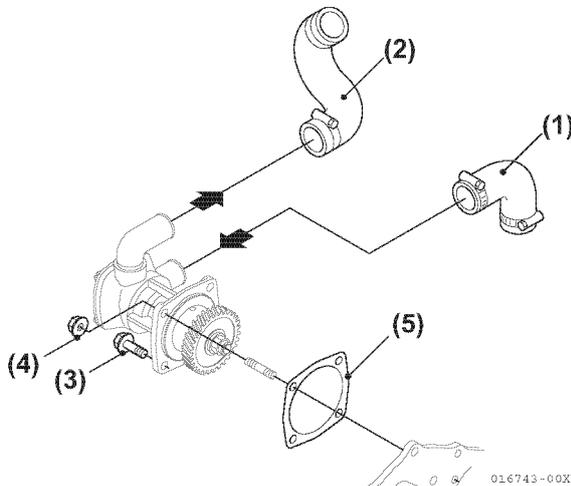

Figure 7-35
- 17. Install the seawater pump assembly with new gasket (**Figure 7-35, (5)**) to gear case.
- 2. Disconnect seawater supply hose from seawater pump (**Figure 7-35, (1)**).
- 3. Disconnect seawater pump-to-heat exchanger pipe (**Figure 7-35, (2)**).
- 4. Remove three bolts (**Figure 7-35, (3)**) and one nut (**Figure 7-35, (4)**) then remove seawater pump.
Note: When installing, use the new gasket (**Figure 7-35, (5)**).